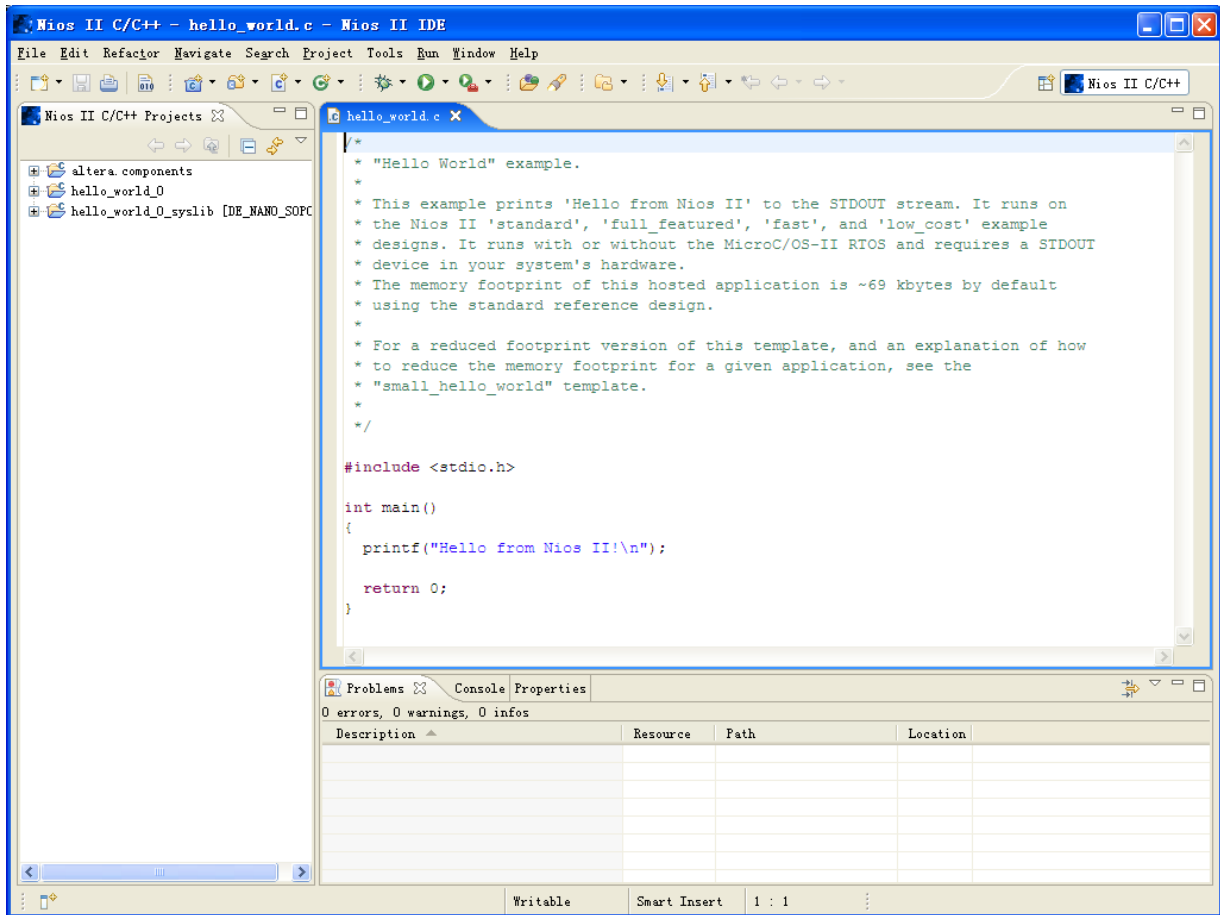

Figure 7-58 Nios II IDE C++ Project Perspective for hello_world_0
5. Click **Finish**. The NIOS II IDE creates the **hello_world_0** project and returns to the NIOS II C/C++ project perspective. See Figure 7-58.